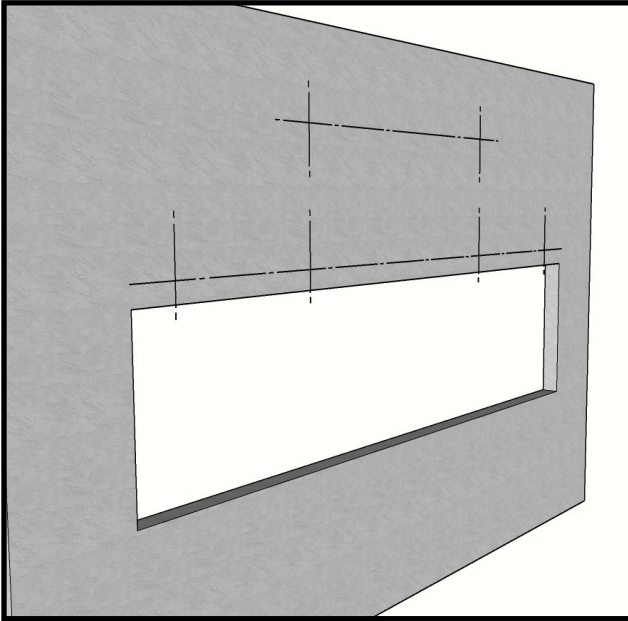

Fig 1
2. Refer to project specific drawing package for intended method of installation. - Begin installation by laying out wall attachment brackets (#1 & #8) based on site specific dimensions (derived by field measurements or build-to dimensions). Use supplied brackets (#1 & #8) for specific hole patterns (see fig 1).